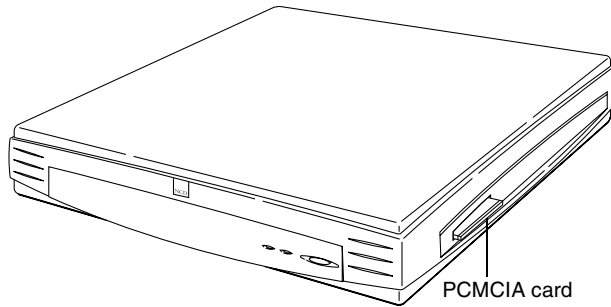

Figure 5-10 Inserting the PCMCIA Card
4. Firmly push the card into the socket to seat it. (See Figure 5-10.)